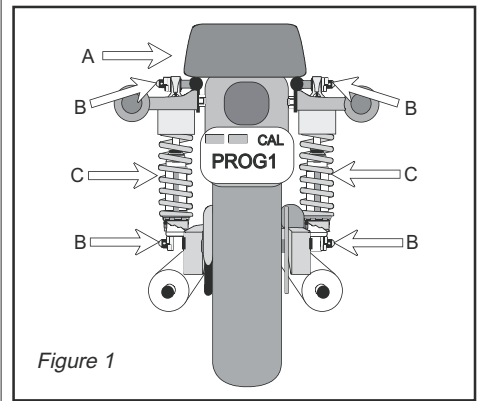

Figure 1
- Install one 12 series shock (without springs) and check clearance (#A in Fig. 1). Raise wheel into fender well until shock bottoms. There should be a minimum of 1" of clearance between the tire and fender.
- Now check clearances (B & C) in figure 1.